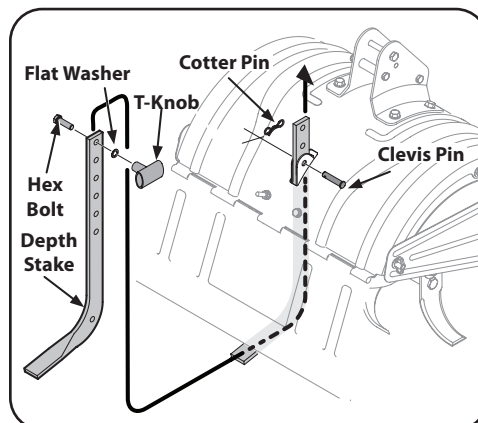

Figure 2-1
2. Unthread the T-knob from the top of the depth stake and remove the flat washer and hex bolt. Remove the cotter pin from the clevis pin. See Figure 2-1.
5. Insert the hex bolt into the top hole of the depth stake assembly. Place the flat washer on the hex bolt and thread the T-knob onto the hex bolt. Tighten securely. See Figure 2-1.